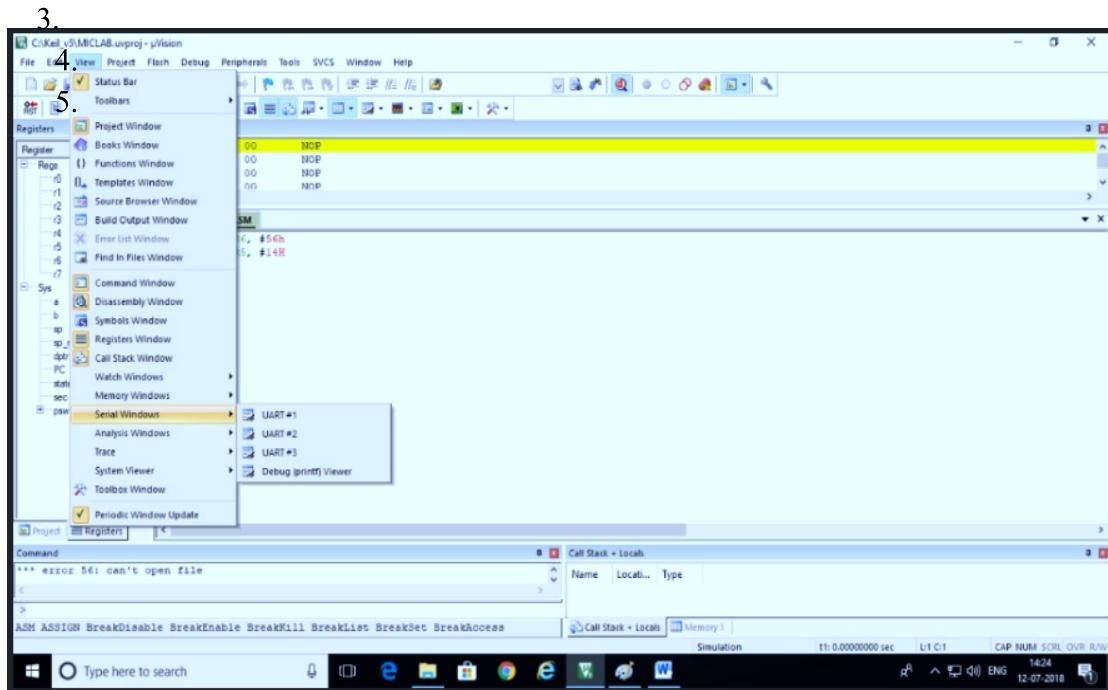

Figure 4.14: UART Window
20. Observe the serial communication by clicking VIEW pull down and select serial window-1 Option. (refer Figure 4.14)